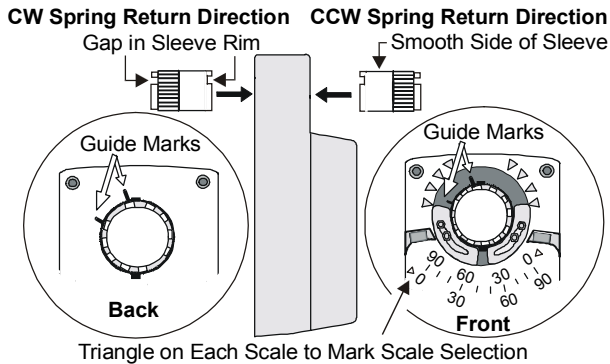

Figure 2: Location of Guide Marks
3. Insert the sleeve into the back of the actuator with the smooth half of the sleeve inserted first. Make sure the gap in the sleeve rim aligns with the two guide marks on the back of the actuator shown in Figure 2.
3. Insert the sleeve into the front of the actuator with the smooth half of the sleeve inserted first. (See Figure 2.)